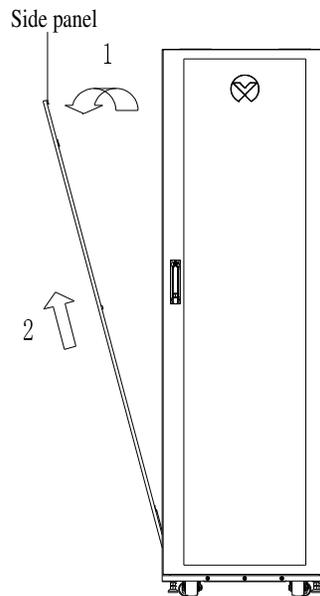

Figure 3-5 Side Panel Disassembly
2. Pull the top of the side panel outwards from the rack frame, as shown in Figure 3-5 and lift it up to remove the side panel.